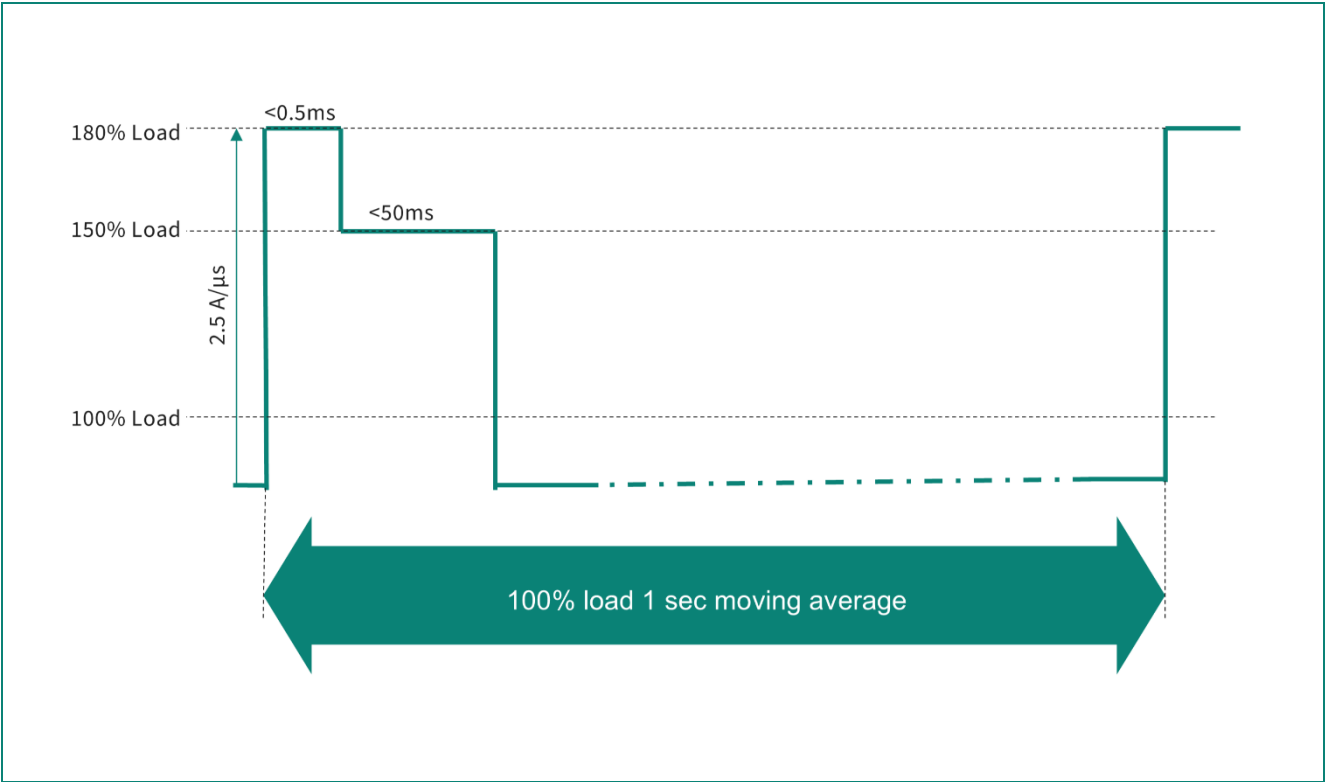

Figure 1 Example peak power profile demanded by AI GPUs
The rise of artificial intelligence (AI) has resulted in a significant increase in power demand in data centers. AI server racks will rise to higher power levels reaching 1 MW. Aside from the significant nominal-power rise of the AI PSU, the GPU also draws a higher peak power and generates high load transients, as shown in Figure 1. This high power and high load transient dictates new architectural changes in AC and DC distribution of data center racks to accommodate the significantly higher currents, while also considering the grid power capabilities. As a part of this new architecture, we introduce concepts of energy buffer (also known as Power Pulsation Buffer or PPB) to support AI peak loads without overloading the grid side. This article will also provide an overview of trends and the evolution of PSUs and rack architecture for AI servers.
Considering all GPUs working synchronously in the same IT rack and also with other IT racks in the same datacenter cluster, demanding peak power as shown in Figure 1, we must expect a large current transient on the grid and in the datacenter's front-end power distribution, such as the medium voltage transformers, protection devices, etc.